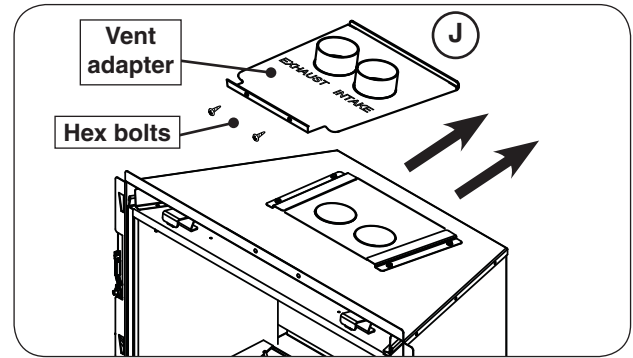

Fig. 26-1 Remove vent adapter
10. Remove the vent adapter from the top of the insert. Unfasten the two hex bolts using a $\frac{7}{16}$ " nut driver and slide the adapter out (see Fig. 26-1, J). Retain the bolts for future install.